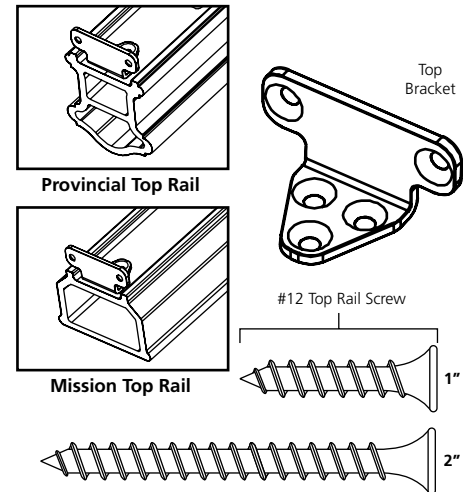

Figure 21
7. Center the top bracket on the underside of the top rail (Fig. 21). Inset the top bracket 1/16" from the end of the rail. Mark the three hole locations on the rail. Pre-drill 5/32" holes at the desired locations. Repeat for opposite end.